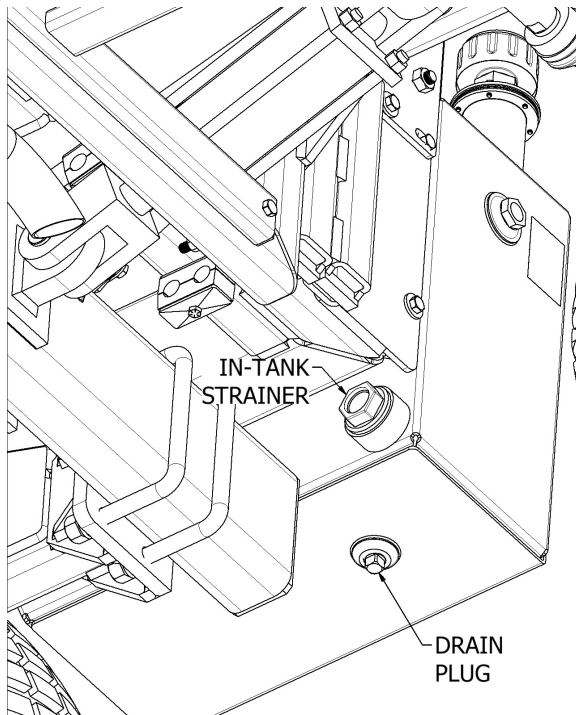

Figure 5.2 – Hydraulic Tank Drain Plug and In-Tank Strainer
1. Locate the drain plug on the bottom of the hydraulic tank. See Figure 5.2.